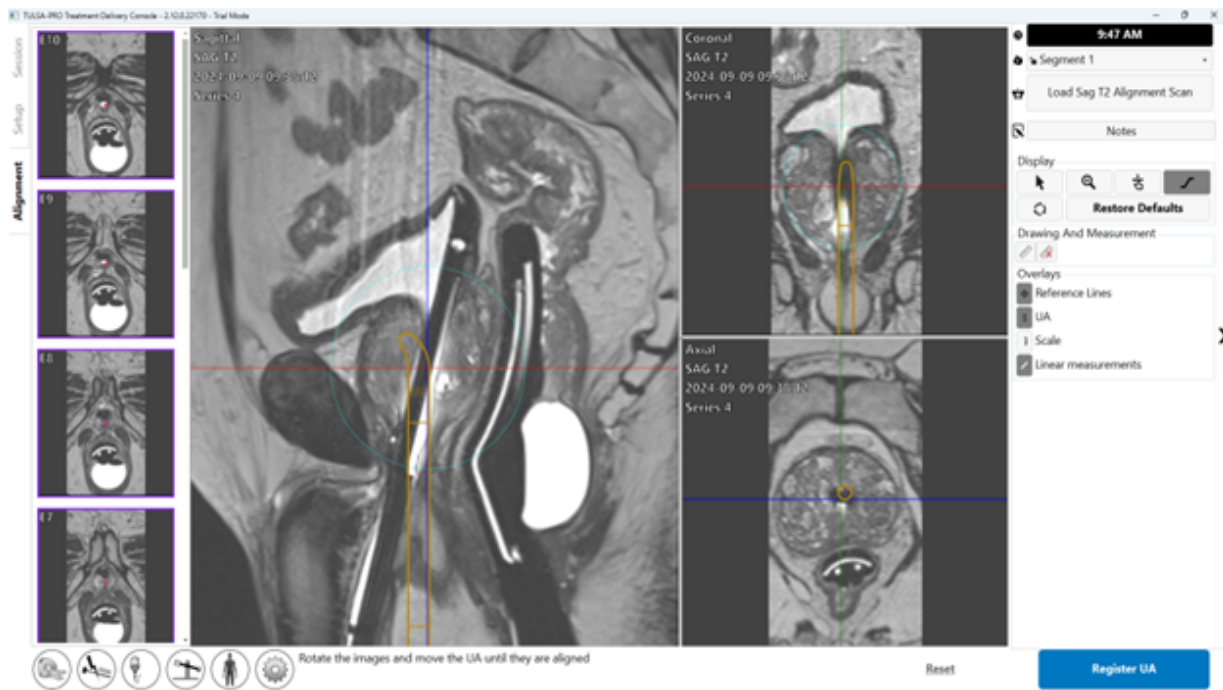
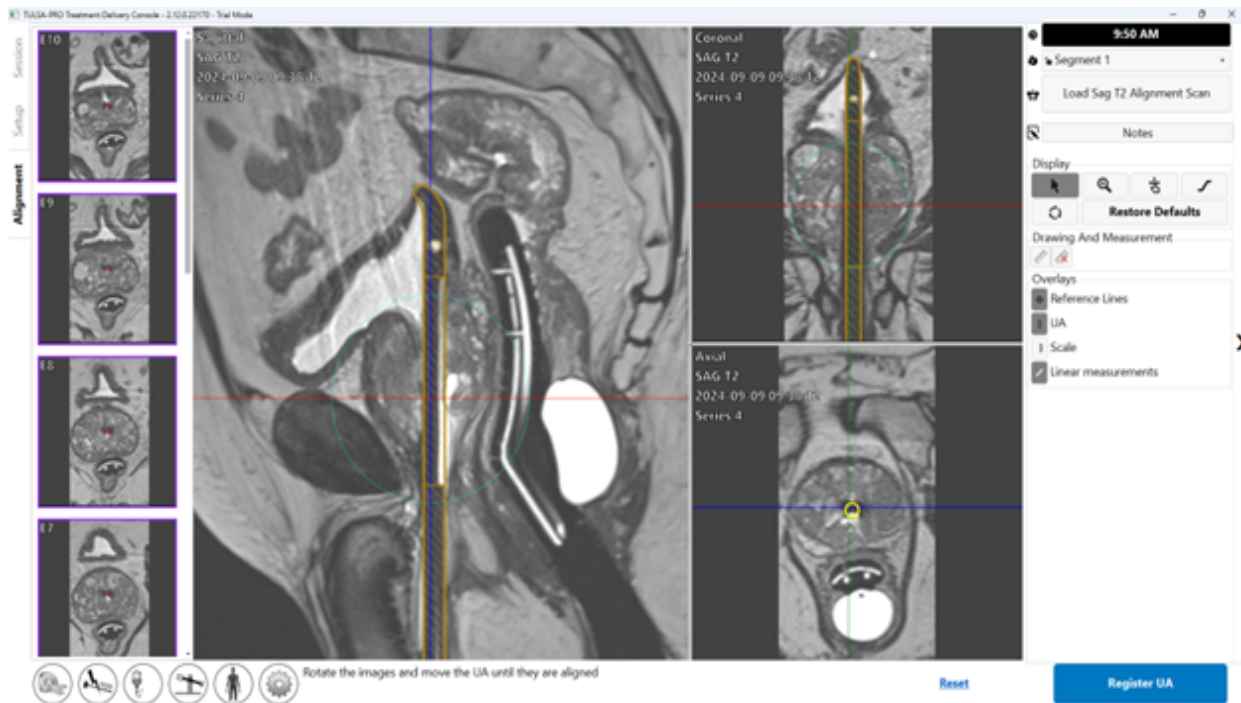

Figure 34: UA before alignment
Figure 35: UA after alignment
**Radiologist:** Use the Alignment workspace to define the location and angulation of the UA in the TDC software by aligning a graphical representation of the UA with the actual UA on the MRI image in three dimensions. Accurate alignment will be critical to safe and effective heat delivery within the intended tissue volume. See example below of the UA in MR images before (*Figure 34*) and after (*Figure 35*) Alignment.